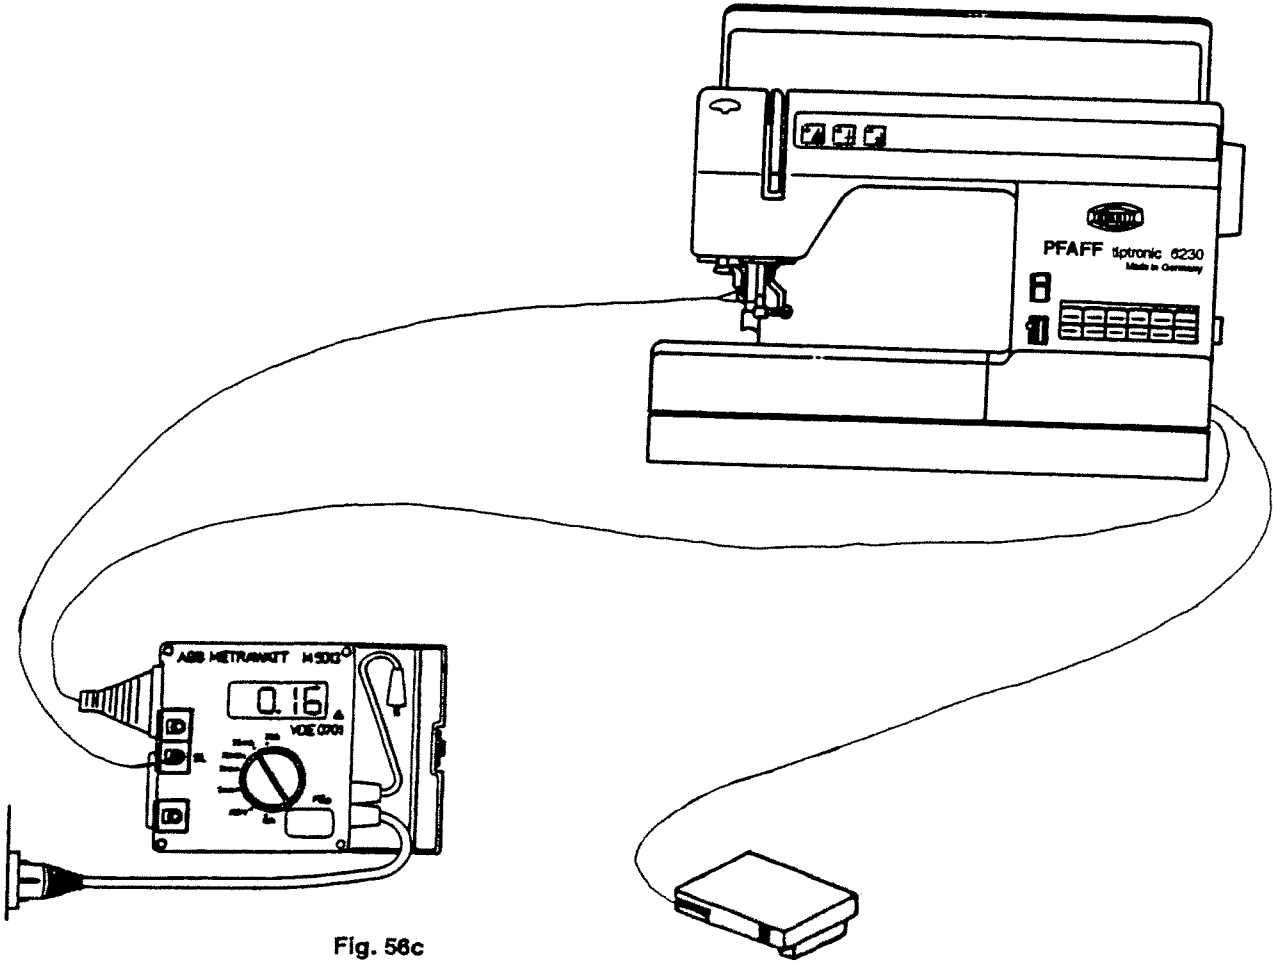

Fig. 56c
- Set knob for measuring range at „20 mA“ (fig. 56c).